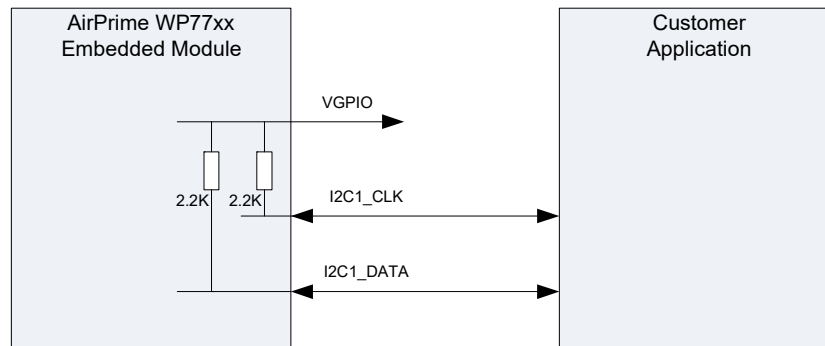

Figure 4-3: Example of I²C Bus Application
- I²C signals are implemented internally as open drain outputs (per the I²C specification) with 2.2 kΩ pull-up resistors to VGPI0 (see Figure 4-3 on page 69).